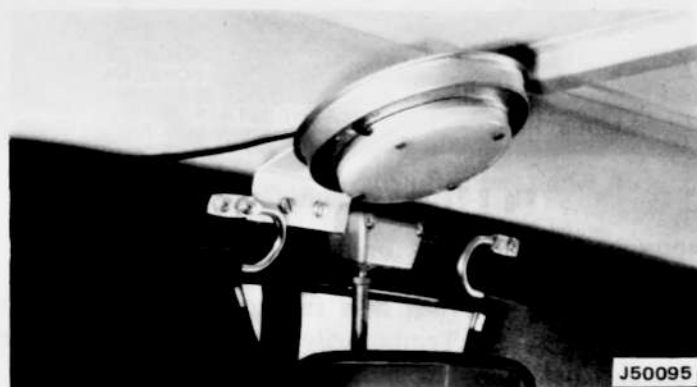

Fig. 2-29 Dome Lamp Installed
(2) Attach dome lamp and bracket assembly to windshield frame with 12 x 1/2 self-tapping screws (fig. 2-29).
(3) Route electrical wire along top of windshield frame and down along side of pillar on driver's side. Secure wire to frame with tape as necessary.
(4) Route wire behind instrument panel to "hot" wire on ignition switch.